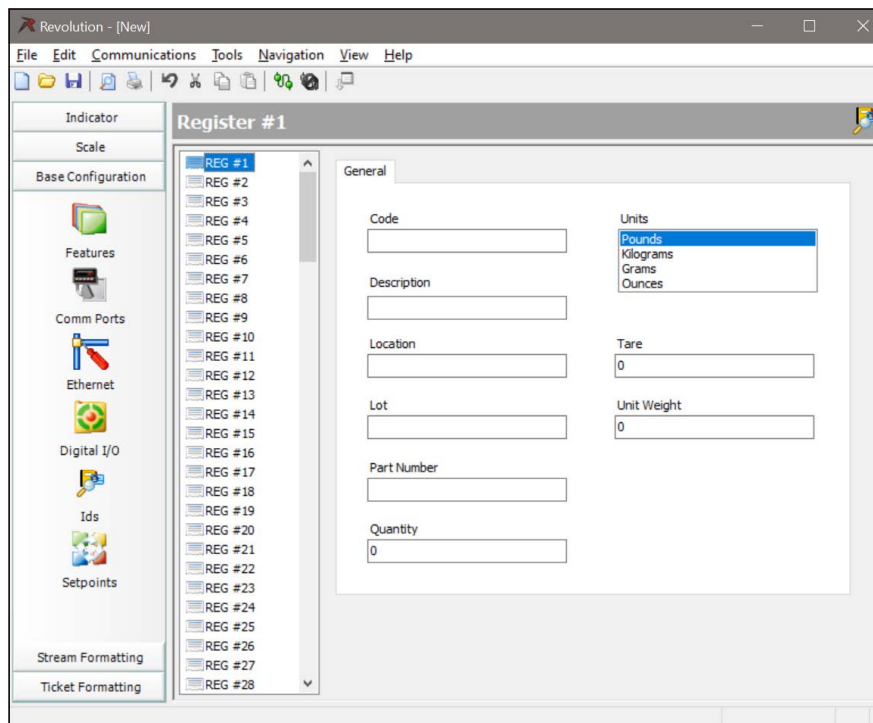

Figure 5-2. Adding IDs Through Revolution
7. Select REG # and add information into the displays as shown in Figure 5-2.